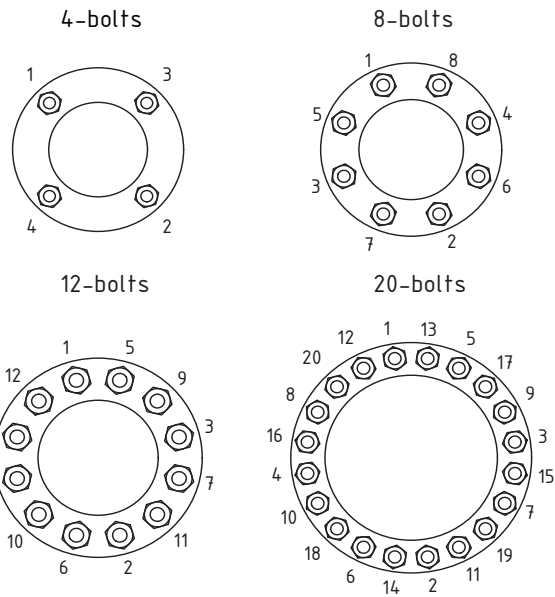

Figure 7
19. Install spiral wound body gasket (5) in the groove of the body .
20. Join the body (#1) and tail (#2), (lettering on the halves face the same direction), Install and tighten the body stud nuts in the crossing pattern shown in figure 7.